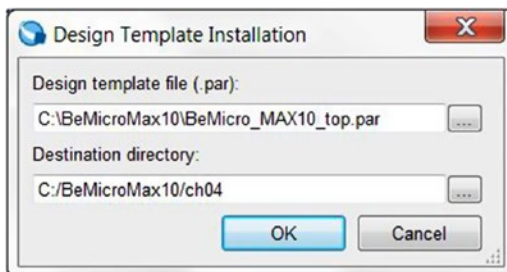

Figure 4-11. Design Template installation
12. Click **Install the design template** in the New Project Wizard—Design Templates. Enter the location of the `BeMicro_MAX10_top.par` and click OK (Figure 4-11).